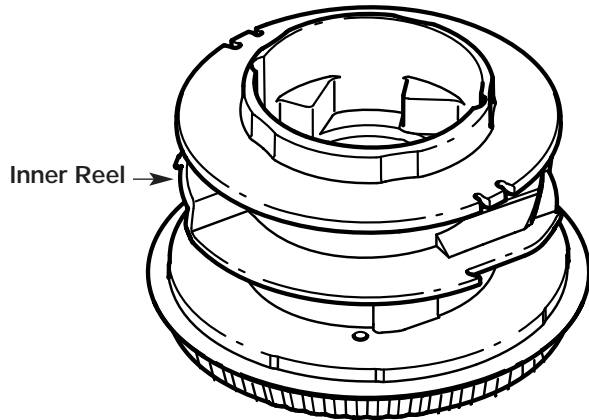

Fig. 23
- Remove any existing line from the inner reel before cleaning. Remove any debris or grass from the knob, spring, inner reel and foam seal. Wash the inner reel with warm soapy water (Fig. 23).